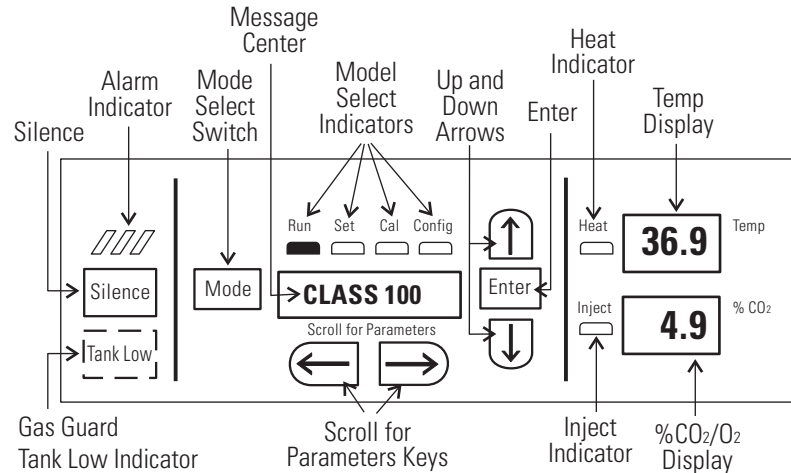

Figure 1-2. Control Panel
- Control Panel - Keypad, Displays and Indicators (Figure 1-2).